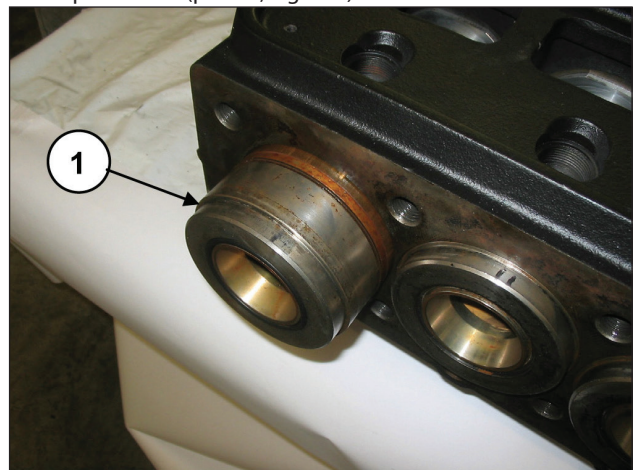

Fig. 124
Turning the shaft, have the piston guide move forward so that the buffer, moving ahead, can expel the seal support and the entire piston unit (pos. ①, Fig. 124).